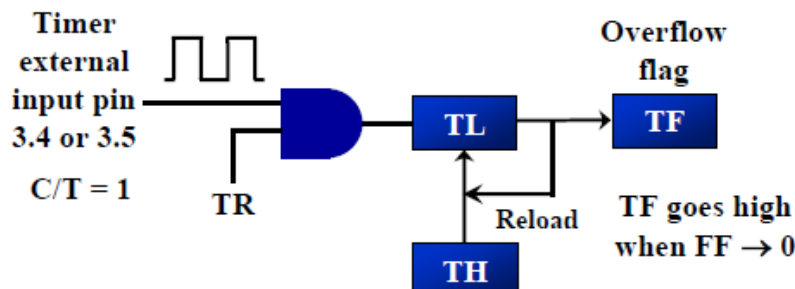

Figure 4.13 Mode 1 and Mode 2 Operation of Timer With External Input
- The figure 4.13 explains the Mode 1 and mode 2 operation of timer with external input